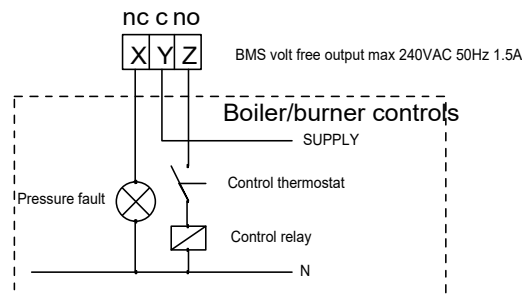

Fig 1.9 Typical Boiler Interrupt Circuit (wiring by others)
- 1.3.6.4 Make any BMS connections required to terminals A-Z on Interface card inside control panel. Connect boiler/chiller terminals nos. X,Y,Z on interface card in series with the boiler/chiller control circuits so that in the event of a fault condition occurring the boiler/chillers shut down and remain inoperative until the fault condition is rectified. A typical arrangement is shown in fig 1.9.